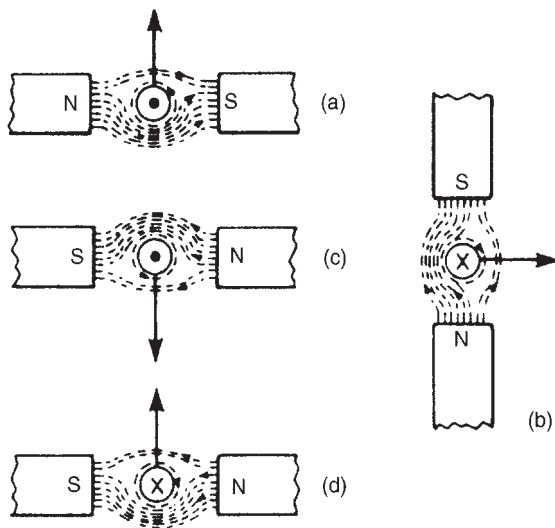

Figure 8.16
- (a) The direction of the main magnetic field is from north to south, i.e. left to right. The current is flowing towards the viewer, and using the screw rule, the direction of the field is anticlockwise. Hence either by Fleming's left-hand rule, or by sketching the interacting magnetic field as shown in Fig. 8.16(a), the direction of the force on the conductor is seen to be upward.
- (b) Using a similar method to part (a) it is seen that the force on the conductor is to the right – see Fig. 8.16(b).
- (c) Using Fleming's left-hand rule, or by sketching as in Fig. 8.16(c), it is seen that the current is toward the viewer, i.e. out of the paper.
- (d) Similar to part (c), the polarity of the magnetic system is as shown in Fig. 8.16(d).